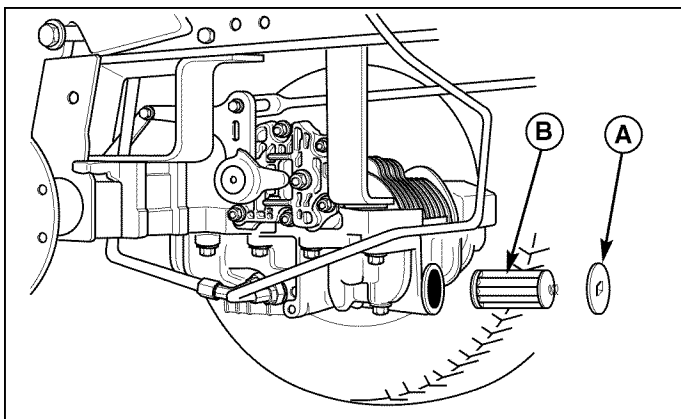
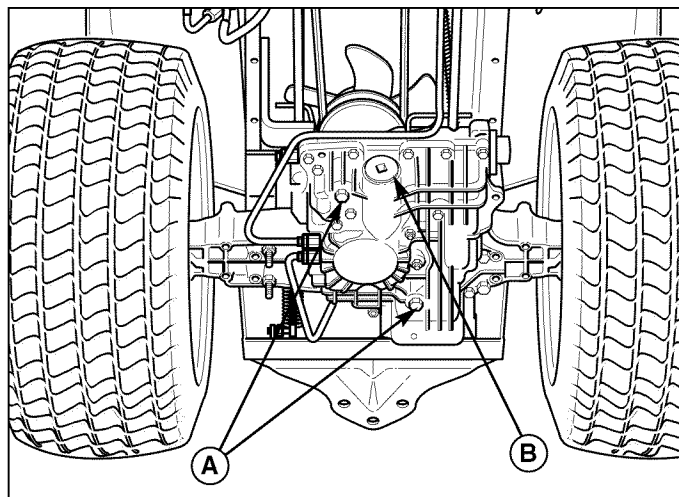

Figure 40. Internal Transmission Filter Service
Figure 41. Transmission Drain Plugs
5. Remove and replace the internal transmission filter (B, Figure 40).
6. Reinstall the filter access cap (A, Figure 40) and the two 14mm drain plugs (A, Figure 41).